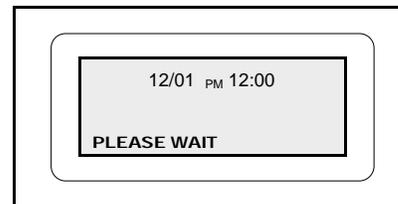

Figure 4
7. Press the “STORE” key again. The display will show “PLEASE WAIT” (figure 4).
9. To add additional records, repeat line items 2 through 7 above.